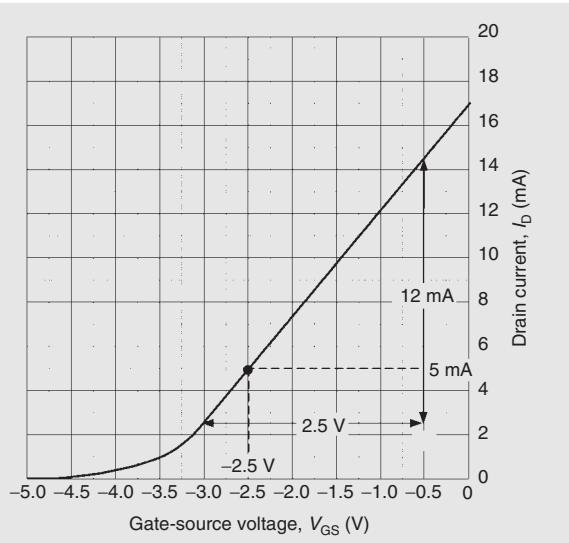

Figure 12.20
**Problem 8.** Figure 12.20 shows the mutual characteristic for a junction gate field effect transistor. When the gate-source voltage is  $-2.5$  V, determine (a) the value of drain current, (b) the dynamic value of forward transconductance.
- (a) From Fig. 12.20, when  $V_{GS} = -2.5$  V, the **drain current,  $I_D = 5$  mA**
(b) From Fig. 12.20